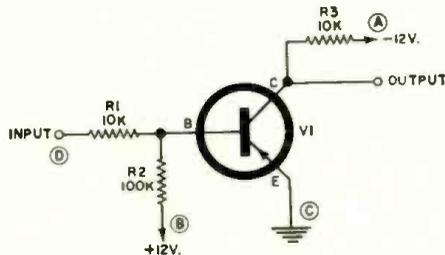

Fig. 4. Typical inverter unity amplifier.
Fig. 4. (A) Cross section of disc electrodes showing how magnetic field produces forces that "pinch" the ionized gas inward. (B) If electrode shape is changed and an opening provided, the pinch effect forces the gas out of the nozzle opening and produces thrust. In this case an additional, external magnetic field is not required at all.
As a concrete illustration of these steps, let's troubleshoot a typical *p-n-p* inverter stage suspected of being defective (Fig. 4). An inverter is a unity amplifier: an amplifier with a gain of 1 whose output is inverted in polarity from the input signal. A "logic 1" signal (-7 v.) applied to the input circuit at the base produces a "logic 0" (0 v.) at the collector; a "logic 0" at the base produces a "logic 1" at the collector. (Digital systems vary in the values and polarities assigned to "logic 1" and "logic 0" signals. The values and polarities cited are typical but not universal.)
The first step in troubleshooting by voltage measurements, therefore, is to determine if correct source voltages are being applied to the stage. This is done by measuring the voltages at A, B, and C in Fig. 4. Assume the applied voltages are found to be correct: -12 v., $+12$ v., and 0 v. respectively. A further preliminary check is made at the input, D. Assume the input is -7 v.; the stage should be normally conducting. A voltage check around the electrodes is then made and all three electrodes measure 0 v. This indicates the stage is responding correctly to the applied signal. However, one important test must still be made to verify if the transistor can operate normally: Will the stage stop conducting when no forward bias is applied to the base? In other words, is the transistor shorted?
As a second illustration of troubleshooting procedure, let's assume now that we have the opposite case when voltage checks are made around the stage. Correct supply potentials are present at A, B, and C and a "logic 0" (0 v.) appears at the input (Fig. 4). The stage should, therefore, be non-conducting. Sure enough, the normal potentials for a non-conducting stage are measured around the electrodes: 0 v., $+1$ v., and -7 v. at the emitter, base, and collector respectively. As before, the acid test is to determine if the stage can operate in the opposite state. In this case: Will the stage conduct normally with a "logic 1" applied to the input? The "logic 1" can be supplied simply by causing the preceding stage (V1, in Fig. 6A) to be cut off by shorting its emitter to its base. If this procedure is not convenient or possible, a resistor can be bridged from the base of the suspected transistor itself (V2, of Fig. 6B) to the -12 -volt supply while collector voltage is measured. Typical resistor value for this purpose is 10,000 ohms, but a higher or lower value may be necessary, depending on circuit parameters. Collector voltage should drop to 0 v., indicating that the stage is conducting. If the stage does not conduct when forward bias is applied to the base through the bridging resistor, the transistor is probably open.